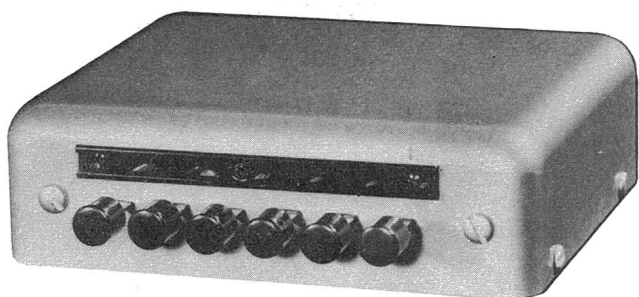
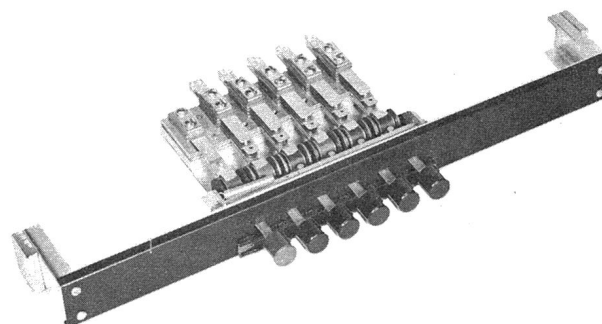
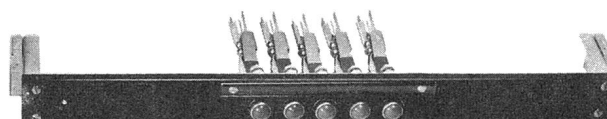

Figure 28A - GB-1030 Area Selection Key
Figure 29 - GB-1042 Area Selection Key - Mounted Directly in Face of Switchboard
Figure 30 - GB-1044 Lamp Mounting
3.52 Five area selection may be performed by using the Graybar, GB-1030 or GB-1042-type key. The GB-1030 is shown in Figures 28A and 28B and is designed for surface mounting. The GB-1042 (see figure 29) is similar to the GB-1030 except that it mounts directly in the face of the switchboard. Busy lamp indication may be provided with the GB-1042 key by using a GB-1044 lamp mounting. (See figure 30)